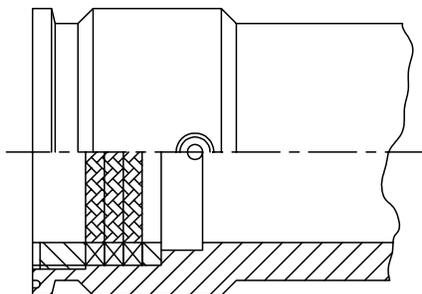

Figure 11.31 The stuffing box.
17. Check the tightness of the box, Figure 11.31. Renew the packing rings, Chesterton 1724 5/16" (8 mm), length 225 mm (8.9 in). Make the packing a little thinner by mangling it with a piece of pipe against a flat surface.